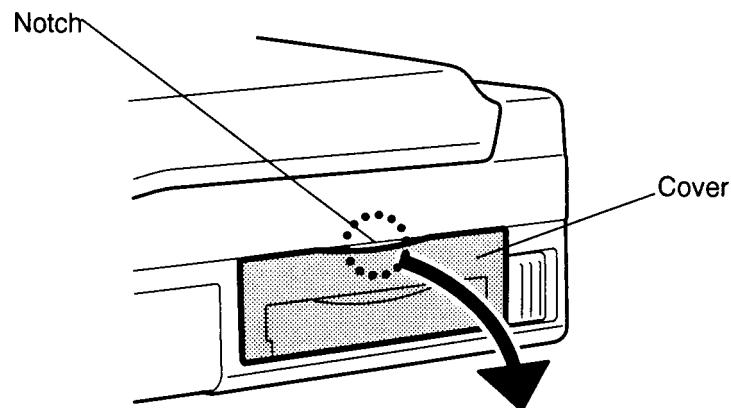

Figure 4-5 Removing the PCMCIA card slot 1 cover
5. To remove a card from the PCMCIA card slot 1, slip your fingernail or a thin object under the **notch** at the top of the cover and snap off the cover (Figure 4-5).
6. Place the **cover** over the slot and press to snap it into place (Figure 4-5).